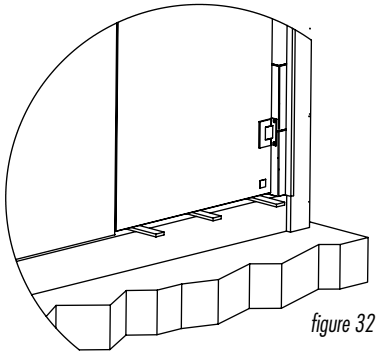
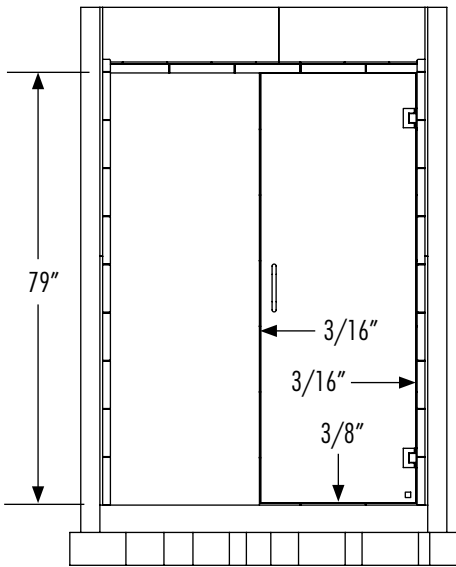

figure 32
figure 33
1. Dry fit the door and check the fit. Use shims to adjust the door height (*fig. 32*). The top of the door should be 79" from the top of the shower pan threshold and level with the side glass panel. The door to panel gap should be 3/16" and the door to shower pan threshold gap should be 3/8". Make sure the glass panel and door are level across the top edge (*fig. 33*).